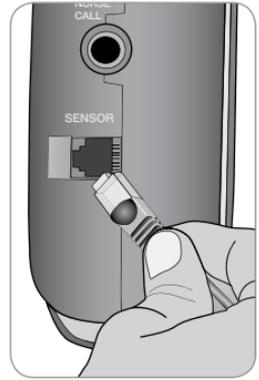

Fig. 26
- Insert RJ11 plug into jack labeled “sensor” on right side of alarm (Fig. 26). Alarm will activate. Press the HOLD button. You have 30 seconds to transfer the patient to the bed before monitoring begins.